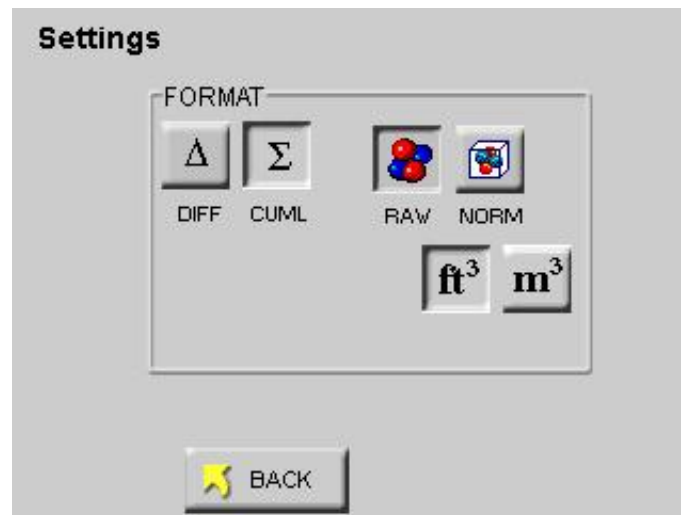

Figure 6-97 Reports Settings Screen
- Select the SETTING button to format the instrument for CUML/DIFF, RAW/NORM, ft^3/m^3 as shown in Figure 6-97.